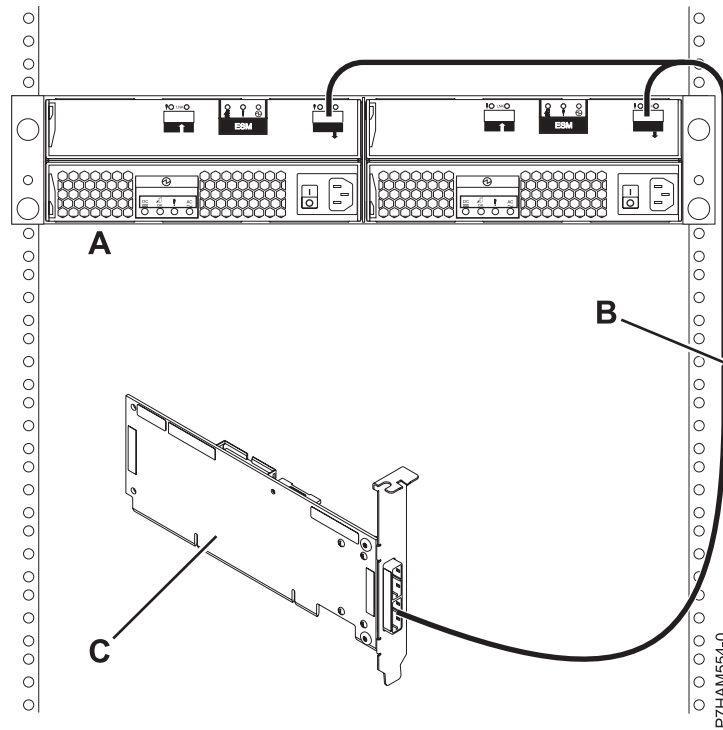

Figure 11. Connection of one 58/86 disk drive enclosure to a single SAS adapter by using a YO cable
- Perform the connection of one 58/86 disk drive enclosure (**A**) to a single SAS adapter (**C**) by using a YO cable (**B**) as shown in Figure 11.